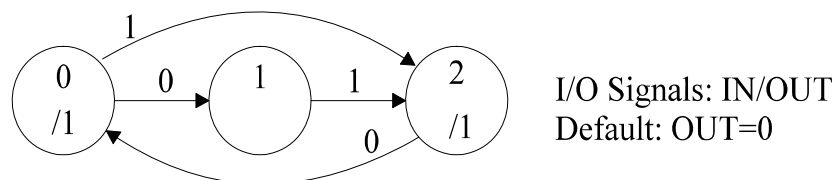

Figure 1
1. *Figure 1* shows the state diagram of a synchronous state machine having a single input, IN, and a single output, OUT. The state is represented by a two-bit number S0:1 whose value is indicated within each state circle along with the value of OUT. Transitions from a state to itself have not been shown.